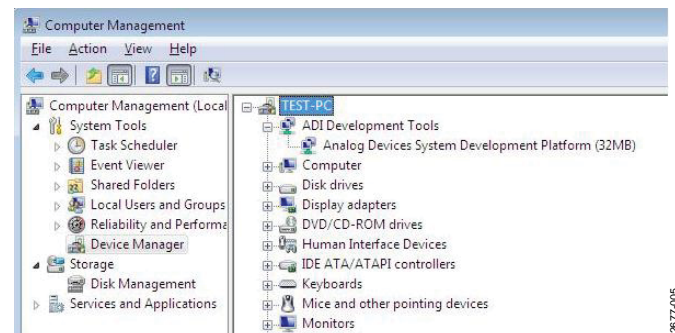

Figure 5. Device Manager
2. Once the drivers are installed, check that the board is connected correctly by going to the **Device Manager** of the PC. Go to **My Computer > Manage > Device Manager**, (see Figure 5).